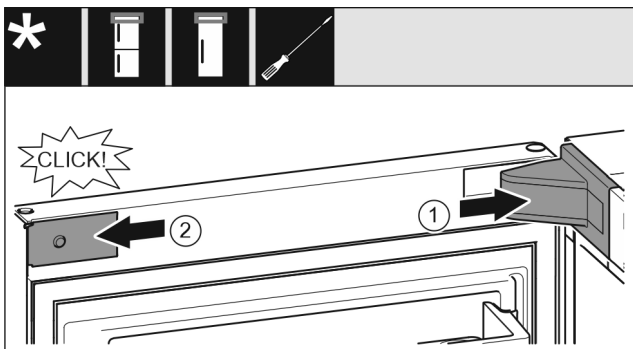

Fig. 20
- ▶ Position the bearing bracket and latch it in place. If necessary push it apart carefully. *Fig. 20 (1)*
- ▶ Position the panel on the side and latch into place. *Fig. 20 (2)*